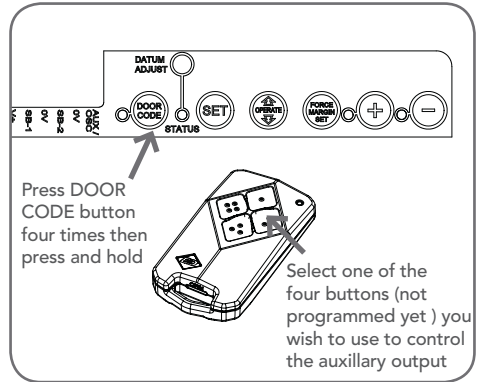

Fig. 8.2
- Press the DOOR CODE button four (4) times - the DOOR CODE LED will illuminate and the courtesy light will flash quickly. **(Fig 8.2)**
- Press one of the four (4) buttons on the transmitter for two (2) seconds, the DOOR CODE LED will begin to flash, pause for two (2) seconds, then press the same button again for two (2) seconds. The DOOR CODE LED will illuminate for one second then go out.